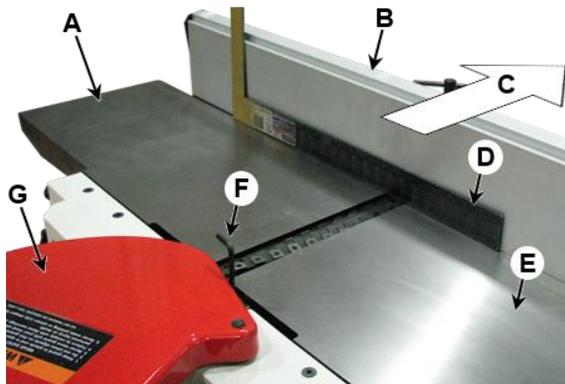

Figure 10
Refer to Figures 10 and 11:
5. Place a *straight edge* (D) across the back of the *outfeed table* (A) and extending over the *infeed table* (E). Note the position of the straight edge in Figure 10 with respect to the *fence* (B).
6. Raise the *infeed table* (A) until it contacts the *straight edge* (D).
10. Use the *straight edge* (D, Fig. 10 and 11) upon the tables to check the adjustment until the tables are coplanar.
11. When the adjustment is satisfactory and the tables now coplanar, tighten the *set screw* (C) with the 2.5mm hex wrench.